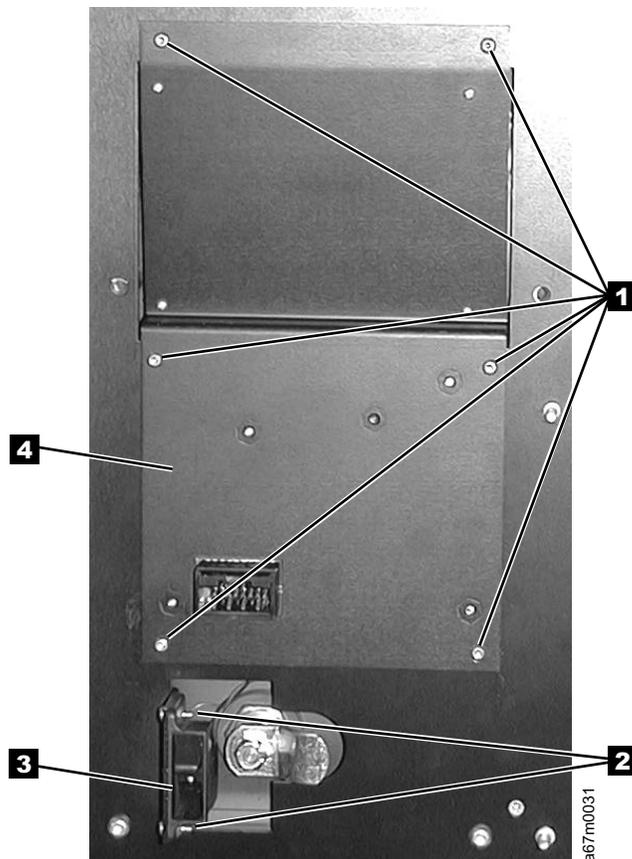

Figure 7-46. Door Interlock Switch Removal and Replacement
- I See Table 14-1 on page 14-1 for Door Interlock Switch and Cable Assembly Part Number. See Figure 7-46 for locations of components in the following procedure.